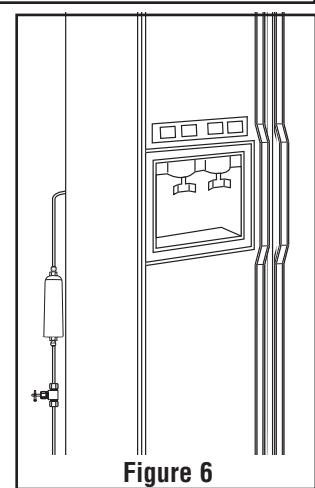

Figure 6
7. Connect the outlet port of the filter to the water line going to your equipment being served. (Figure 6)
- Connect the outlet port of the filter to the water line going to your equipment being served. (Figure 6)